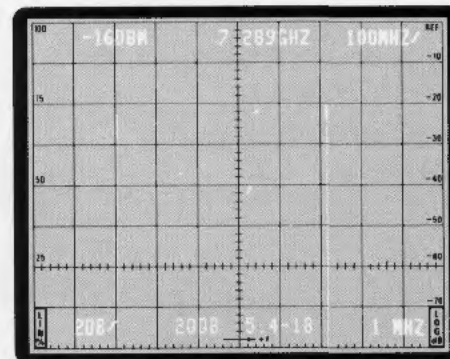
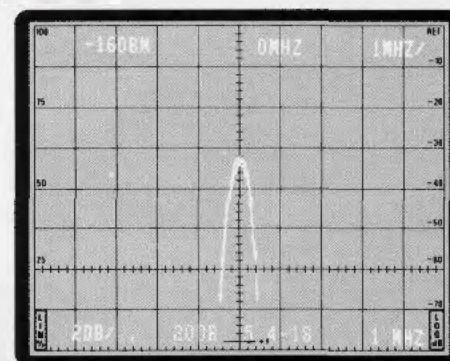
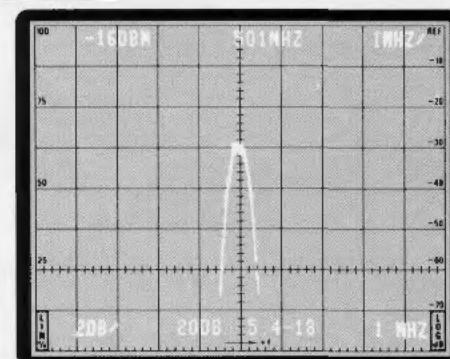

Figure 10
Figure 11
Figure 12
The frequency difference (AF) mode enhances the measurement accuracy when determining frequency differences between widely spaced signals. In figure 10 two signal components appear to be 500 MHz apart. But, is the separation precisely 500 MHz or 510 MHz, or 493 MHz, or what? By reducing the span to 1 MHz/div. and activating the frequency difference mode, the frequency readout is set to 0 MHz reference (upper center of figure 11). Tuning the next signal to center screen we note that the frequency spacing is 501 MHz (shown in figure 12).